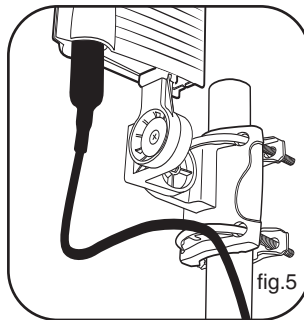

fig.5
4. Slide the assembly onto the mast. Do not tighten fully, just snug enough for the assembly to stay in place (fig. 5).